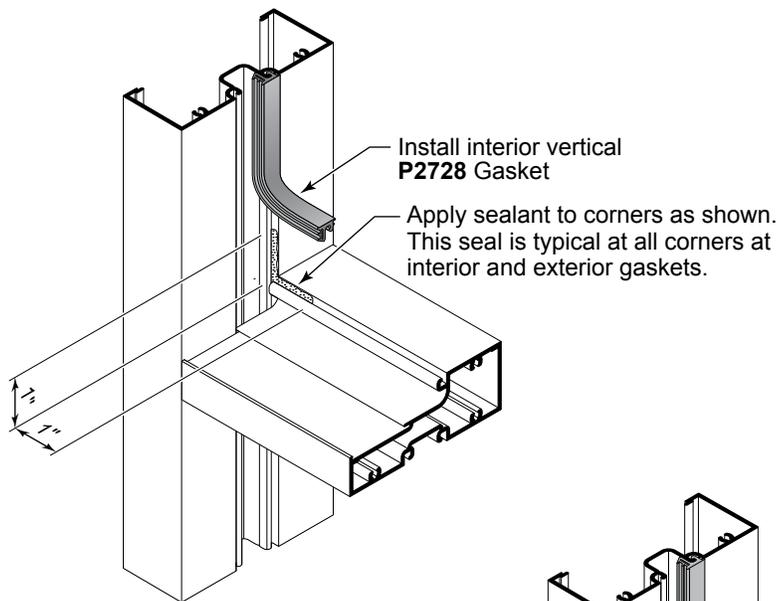

Fig. 36.1
- D. Install the interior vertical gaskets, at each end and work toward the center, firmly pushing the gasket in place, as shown in **Fig. 36.1**.